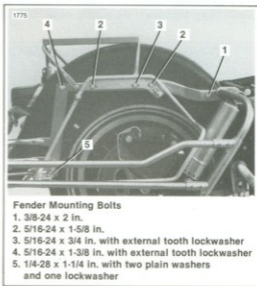

Figure 2-125. Rear Fender Removal — FL Models
3. See Figure 2-125. Remove the hex head bolts (2) and (3) pull luggage carrier from the assembly.
6. See Figure 2-125. Carefully remove hex head bolts (1) and (4). Lift off the fender.